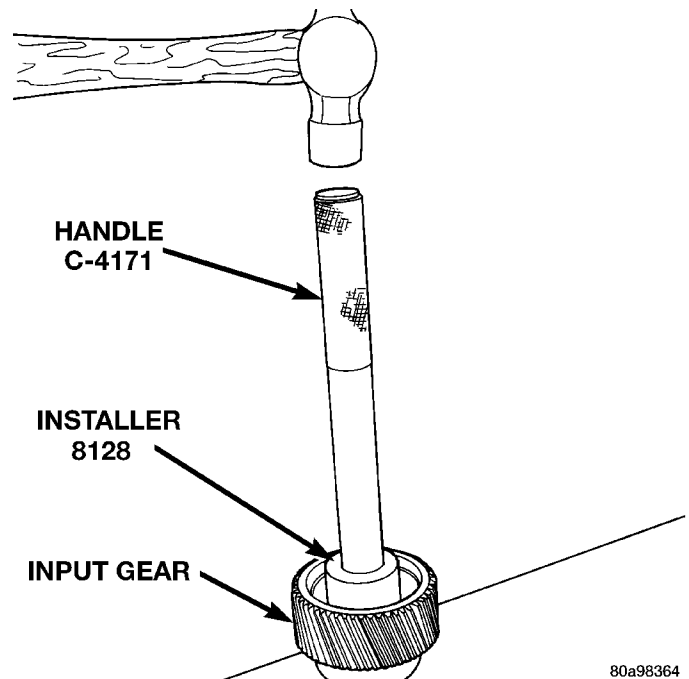

Fig. 55 Install Input Gear Pilot Bearing
(10) Install new pilot bearing with Installer 8128 and Handle C-4171 (Fig. 55).